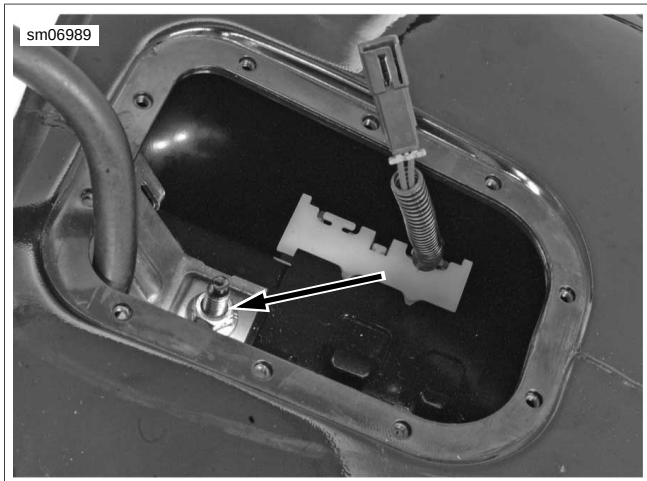

Figure 4-38. Vapor Valve Bracket
1. See Figure 4-38. Remove nut.
6. See Figure 4-38. Install bracket with nut. Tighten nut to 120-144 **in-lbs** (13.6-16.3 Nm).